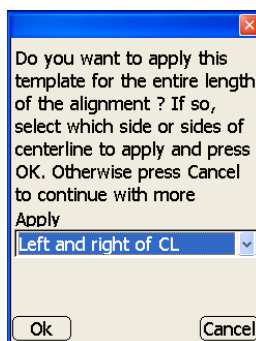

Figure 2-24. Apply Template to Alignment
15. To apply the template, do one of the following and press **Ok** (Figure 2-24). Otherwise, press **Cancel** to create specific template applications.